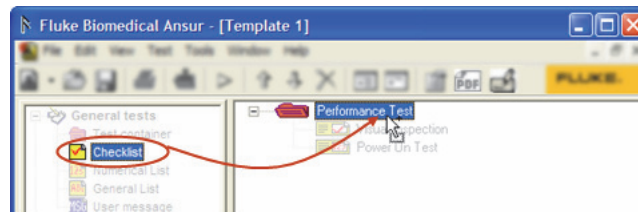

Figure 3-22. Adding a Test to a Test Container
- To add tests to the test container, select another test in the test explorer and drag it to the template window. Drop it on the name of the text container already created as shown in Figure 3-22. A new test element is displayed in the template as a subordinate of the test container.